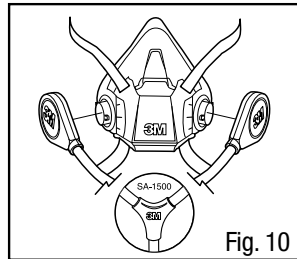

Fig. 10
1. Hold the facepiece in front of you so the 3M logo is facing you. Align the two branches of the breathing tube over the two bayonet mounts on facepiece (Fig. 10). For SA-1500 or SA-1600 Breathing Tubes, make sure the 3M logo on breathing tube and on facepiece are both facing towards you. For SA-2500 or SA-2600 Breathing Tubes, make sure the 3M logo on breathing tube is facing in opposite direction to 3M logo on facepiece.